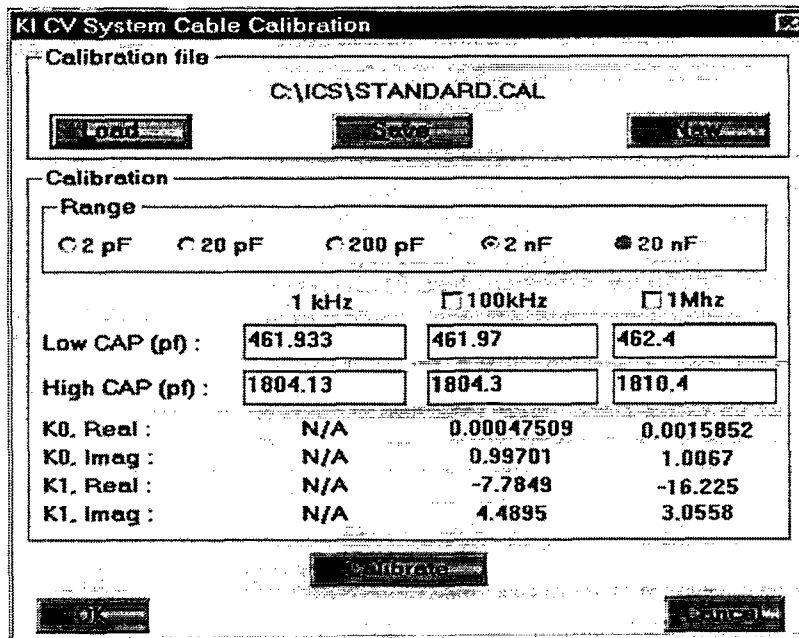

Figure 3 System Cable Calibration Window
3. Once calibration is finished, the screen should appear as shown in Figure 3.